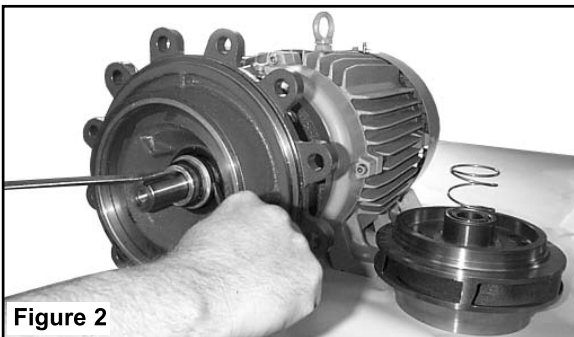

Figure 2
9. Pry off rotating member of mechanical seal from sleeve by using two (2) screwdrivers. (Figure 2)